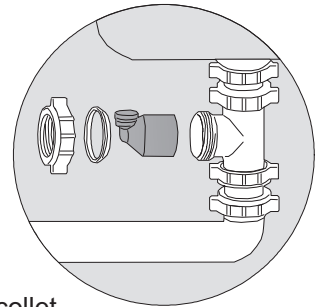

FIG. 4
5. Insert new drain line adapter with push-in connector (provided) into side outlet of tee, and rotate towards incoming 1/4" rejected water drain tube. Make sure that adapter is firmly seated in bottom of socket, then tightly secure with beveled S.J. washer and wing nut (provided). (See Fig. 4)